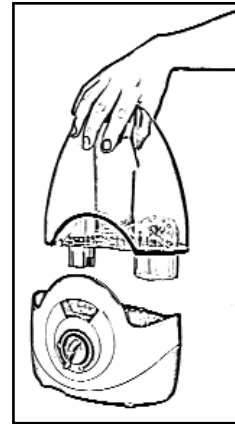

Fig.2
1. Handle the water tank firmly and remove it from the base (fig. 2).